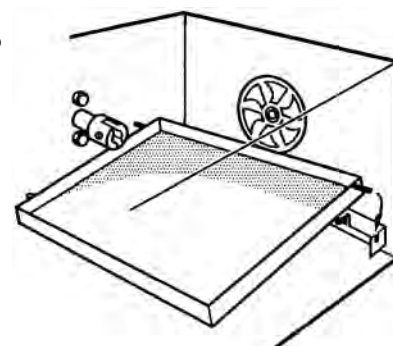

**Figure 3.** Insert Tray Peg into Slot
2. Fit the rear right hand peg of tray into vertical slot at right of bracket, allowing tray to temporarily rest on oven base. Refer to Figure 3.